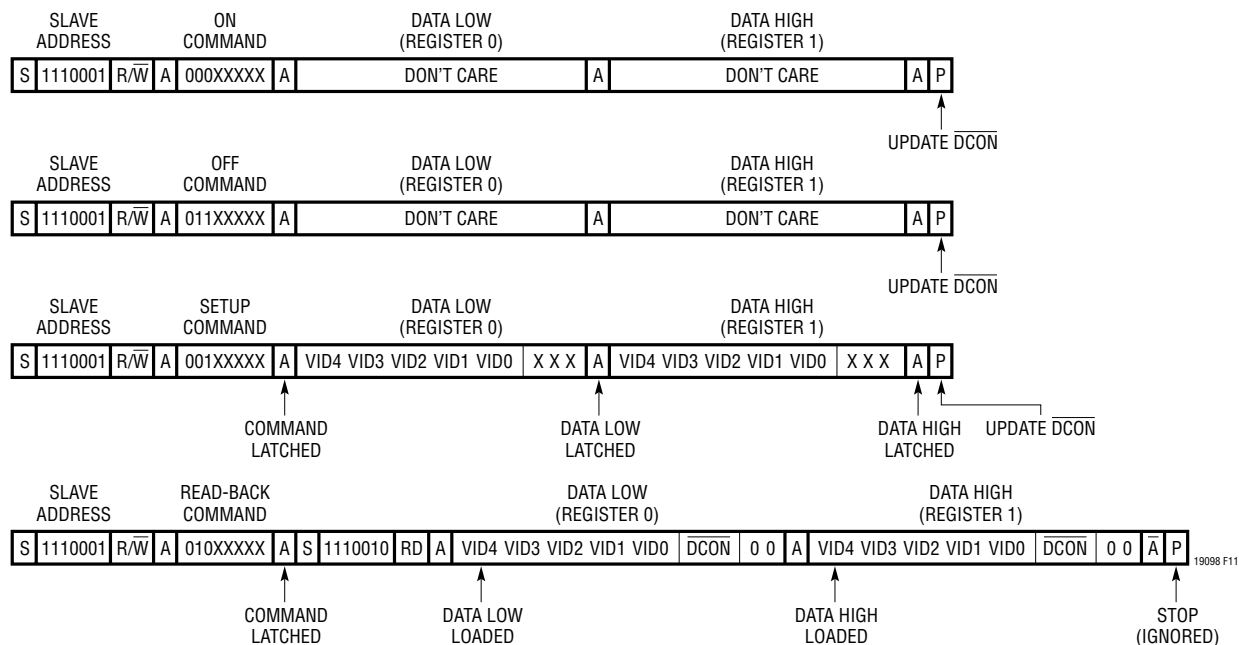

Figure 11. Write Word and Read Word Protocols
The Write Word and Read Word protocols (Figure 11) share three common features. First, the 7-bit slave address for both protocols is internally hardwired to $1110\ 001\text{B} = \text{E2H}$. A single R/W bit follows the slave address. This bit is low for data transfer from the microprocessor to the LTC1909-8 and high for transfers in the opposite direction.
Each Write Word protocol (Figure 11) begins with a start bit (S) and ends with a stop bit (P). As shown in the Timing Diagram the start and stop bits are defined as high-to-low and low-to-high SDA transitions respectively, while SCL is high. In between the start and stop bits, the microprocessor transmits four bytes to the LTC1909-8. These are the address byte, an 8-bit command code and two data bytes. The LTC1909-8 samples each bit at the rising edges of the SCL clock.